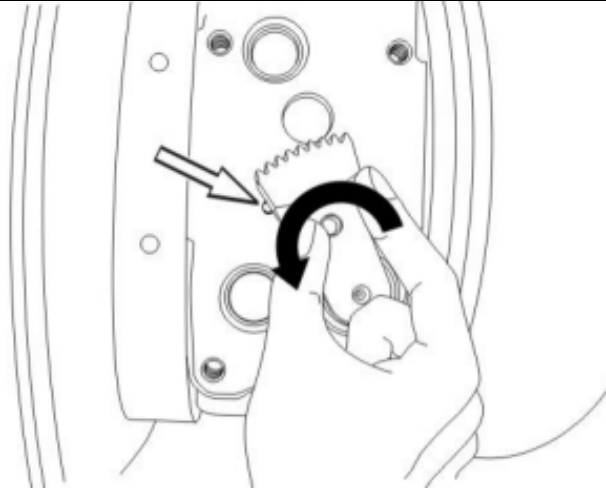

FIGURE 9
13. Rotate the sector gear fully counterclockwise until contact is made with the end stop of the variable geometry internal mechanism. 1/4 to 3/4 of the 3mm (0.118 inch) reference hole should be visible at the edge of the sector gear nearest the turbine housing (FIGURE 9).